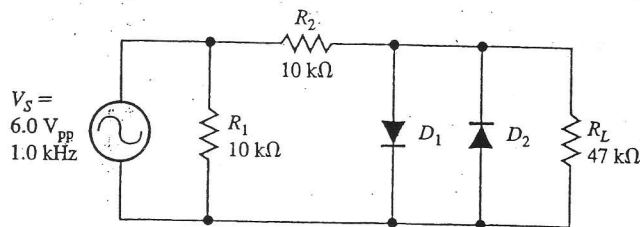

Figure 33-8
5. Predict the maximum and minimum output voltage for the clipping circuit shown in Figure 33-8: